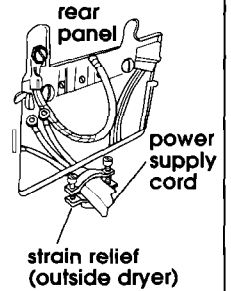

Figure 6
3. Attach 3/4" U.L.-listed strain relief (U.L. marking on strain relief) to the hole below terminal block opening (see Figure 6). Tighten strain relief firmly to cabinet so it is in a horizontal position. Place power supply cord through strain relief.